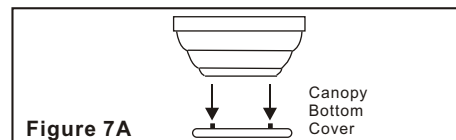

Figure 7A
3. Remove the decorative canopy bottom cover from the canopy by depressing the three studs (Fig. 7A)